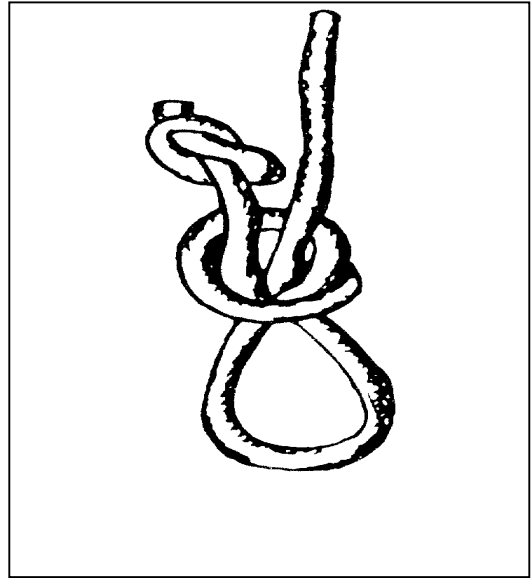

Figure 11-6. Tied eye
h. Tied Eye. A tied eye (Figure 11-6) is a loop that is tied rather than spliced at the end of a line.